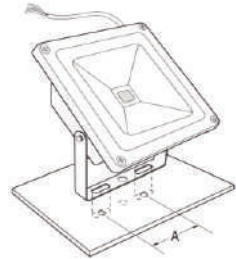

Fig. 1
3. Drill 2 holes, place the bracket over the holes and screw into the wall (fig. 1 & 2). Please ensure Installation height (Refer to Specifications table).